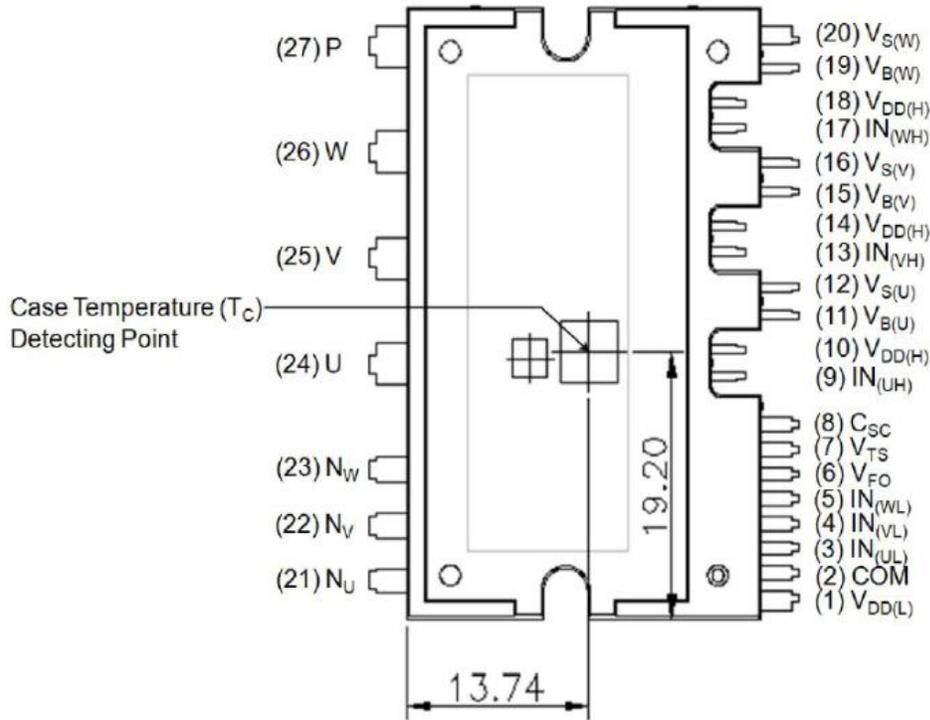

Figure 7. Case Temperature ( $T_C$ ) Detecting Point
4. For the measurement point of case temperature ( $T_C$ ), please refer Figure 7.